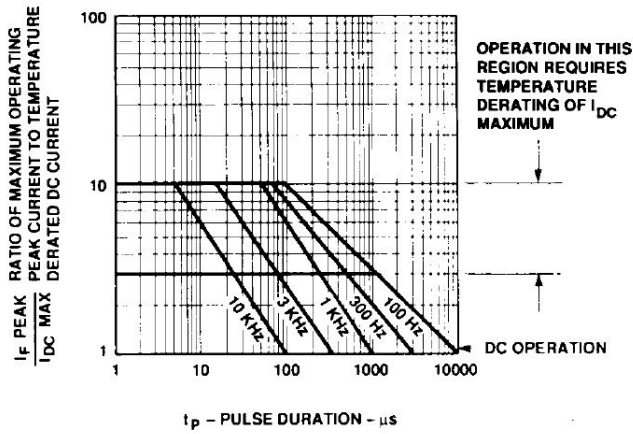

Figure 1. Maximum Tolerable Peak Current vs. Pulse Duration – HER Series.
- See Figure 1 to establish pulsed conditions.